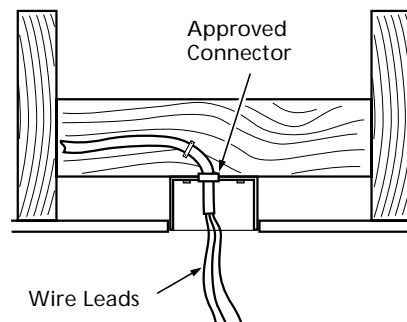

Figure 2e - Wiring for Fan
2. Thread the fan supply line through the outlet box so that the fan supply line extends at least six inches (6") beyond the box as shown in Figure 2e.
3. Attach the fan supply line to the outlet box with an approved connector, available at any hardware store or electrical supply house. Refer to Figure 2e.